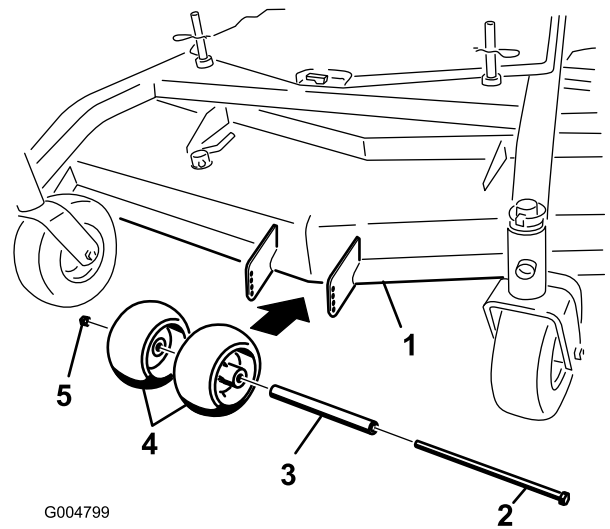

Figure 15
1. After adjusting the height-of-cut, check the anti-scalp rollers so that there is a minimum of 10 mm (3/8 inch) clearance above the ground (Figure 15, Figure 16, Figure 17).
2. If an adjustment is needed, remove the bolt, washers, and nut (Figure 15, Figure 16, Figure 17).
3. Select a hole position so that the anti-scalp rollers are a minimum of 10 mm (3/8 inch) off of the ground (Figure 15, Figure 16, Figure 17).
4. Install the bolt and nut (Figure 15, Figure 16, Figure 17).